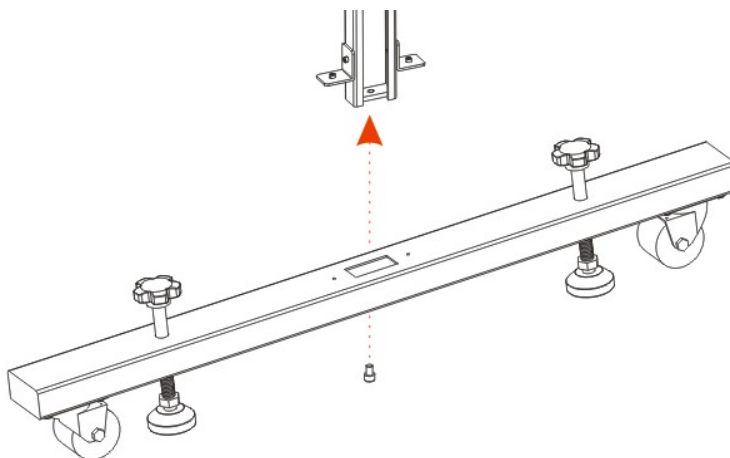
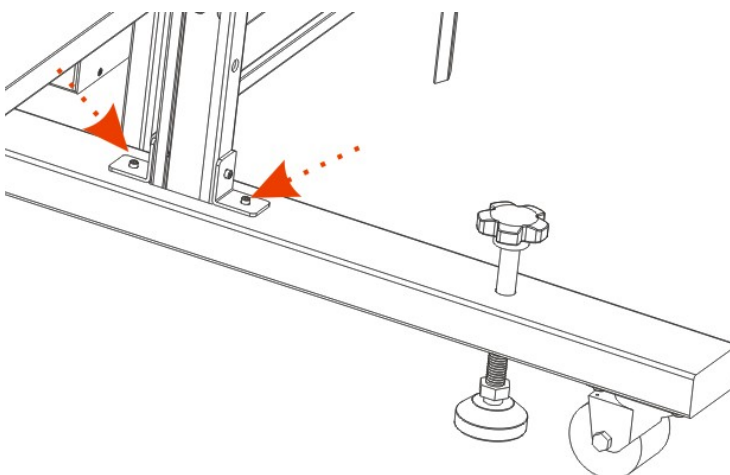

Fig. 4-1
Fig. 4-2
1. Align the calibration frame (13) and base support (11), and then tighten the screw (A) to lock the calibration frame (See Fig. 4-1). To prevent the calibration frame from getting loose, fasten the set screws (D) on the right and left cross connectors (13) respectively (See Fig. 4-2).